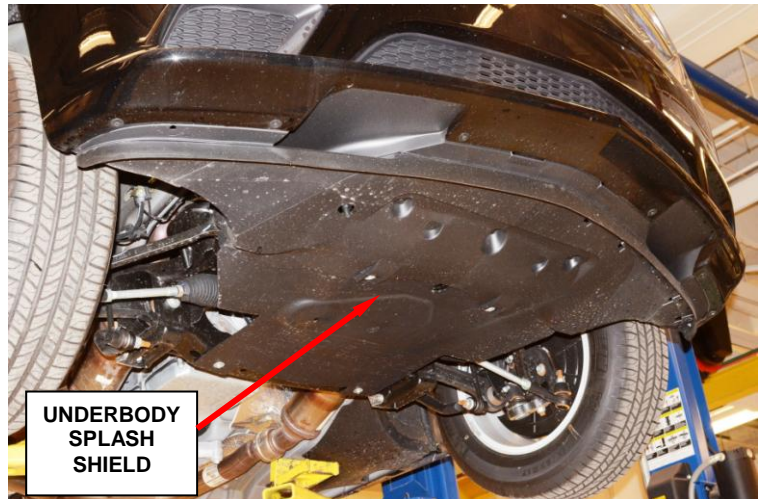

Figure 22 – Underbody Splash Shield
9. Remove and save the underbody splash shield (Figure 22).